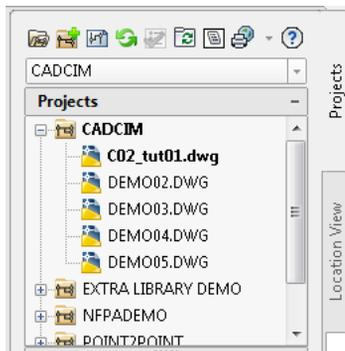

Figure 2-64 The **PROJECT MANAGER** displaying the **CADCIM** project after removing the *DEMO01.dwg* drawing
- Right-click on the *DEMO01.dwg* drawing and then choose the **Remove** option from the shortcut menu displayed; the **PROJECT MANAGER - Remove Files** message box is displayed. Choose the **Yes** button in this message box; the *DEMO01.dwg* drawing is removed from the drawing list, see Figure 2-64.